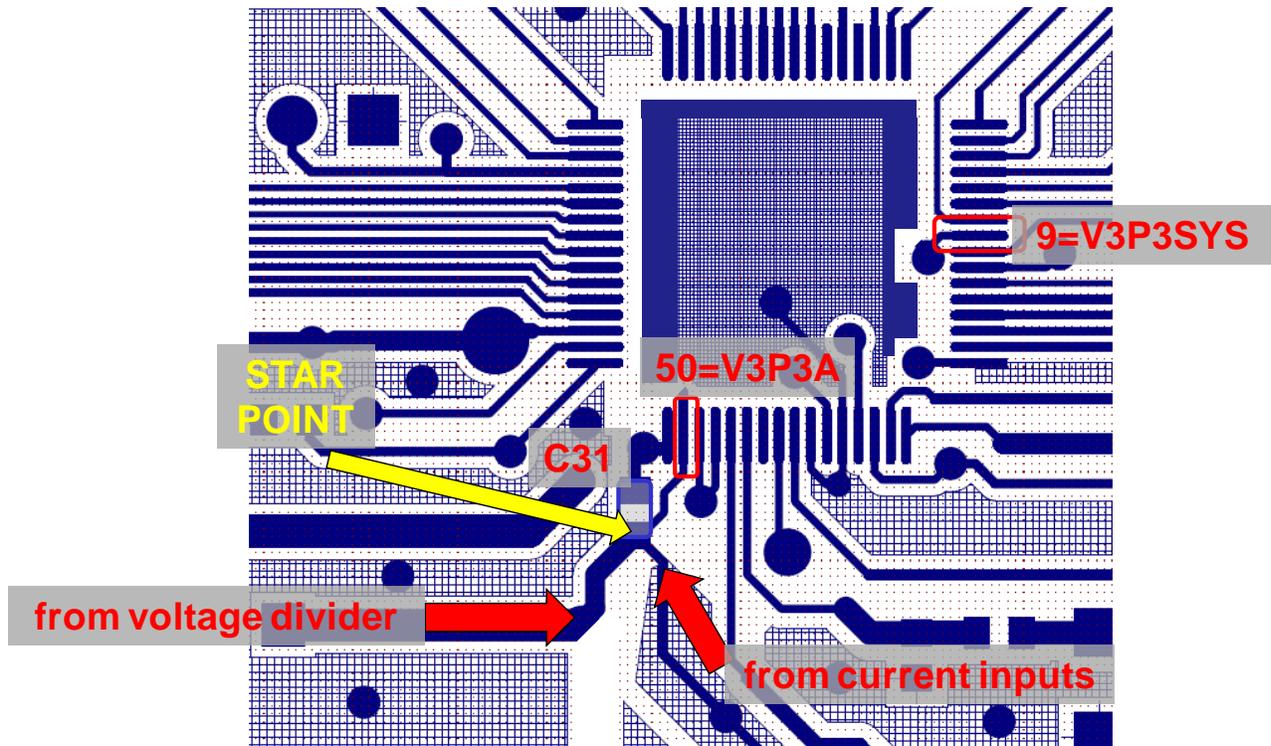

Figure 20: V3P3A Star Point
3. Utilize a star point connection structure (“Kelvin” junction) on the top layer placed close to the V3P3A pin of the IC to bring together all analog circuits connected to V3P3A, including V1 (see Figure 20).